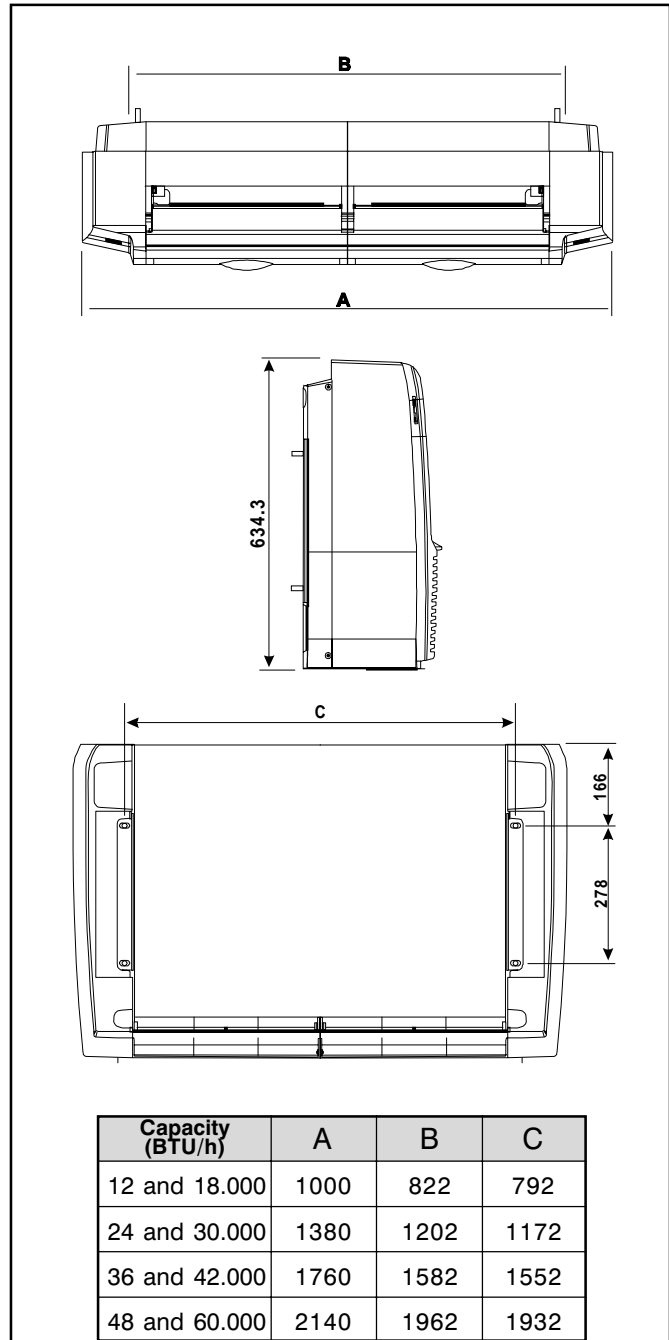

FIGURE 3 - SIZES FOR EVAPORATING UNIT INSTALLATION
- Install the brackets (figure 3) underceiling by using the screws, nuts and washers.